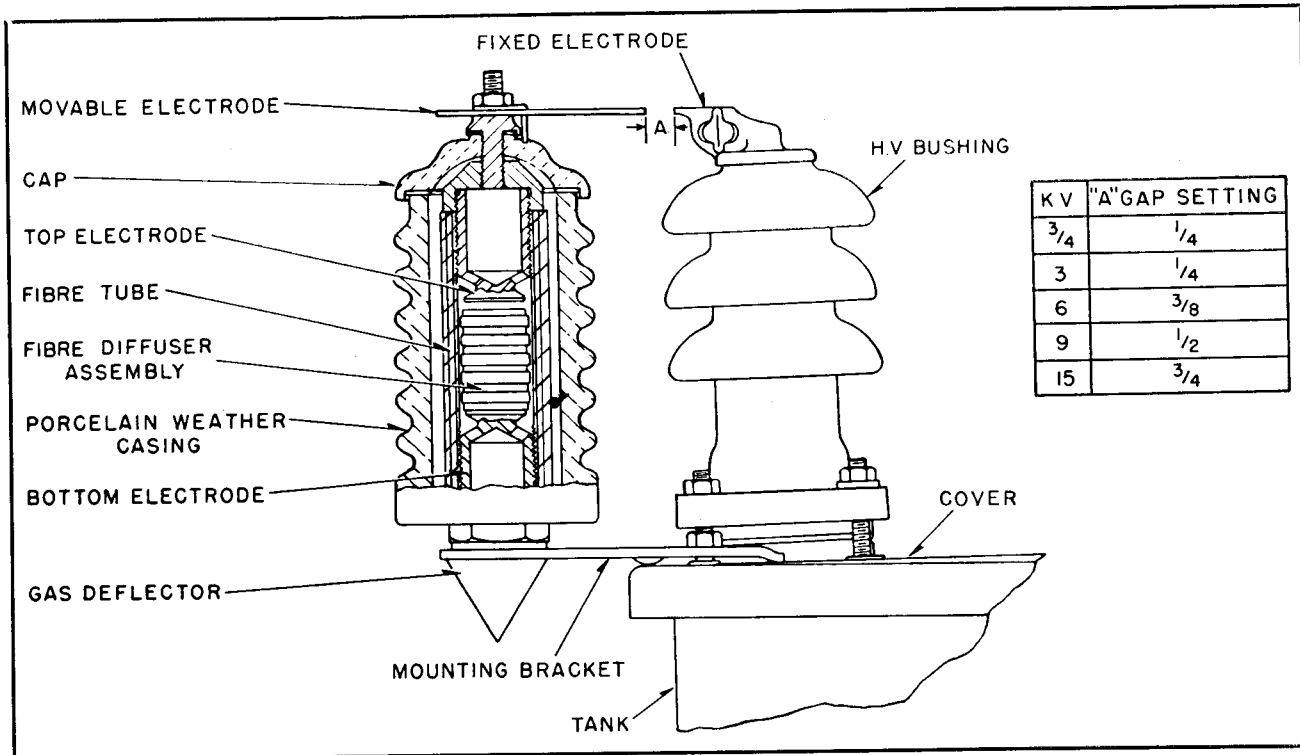

FIG. 7. Externally Mounted De-ion Arrester and Gap Adjustment.
2. For proper operation of the "De-ion" arresters, the air gaps should have spacings as shown on Fig. 7. These settings have been made at the factory and require no adjustment, unless they have been tampered with or damaged during shipment.